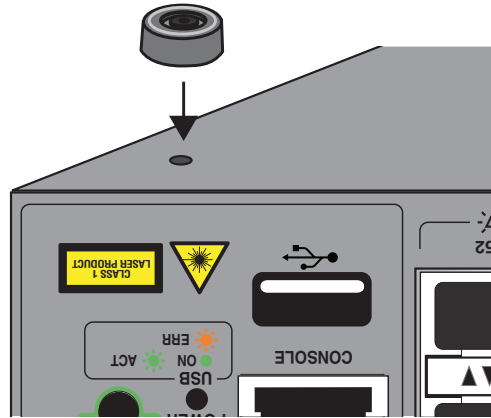

Figure 28. Placing the Bumper Foot on a Base Corner Hole
3. Place the bumper foot with rivet housing onto one of the holes in the base of the switch. Refer to Figure 28.